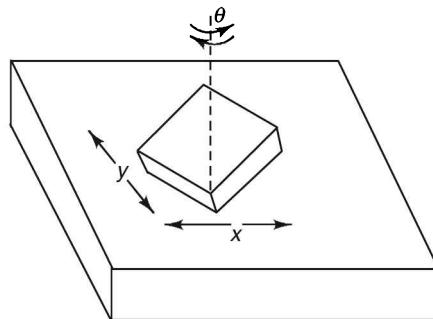

FIGURE 7.9 Planer pair.
- (g) *Planer pair:* A planer pair as the name suggests consists of two elements which can move in a plane. A planer pair has three degrees of freedom. Two coordinates x and y describe the relative translation in the xy plane and the third coordinate θ describes the relative rotation about the z -axis (Figure 7.9).